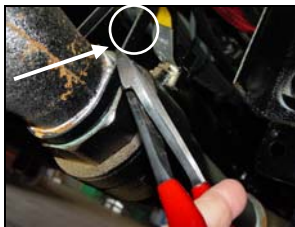

Figure 1 Cut zip tie
1. Remove the zip tie from the oil shut-off valve on the hydraulic oil tank. (Figure 1)